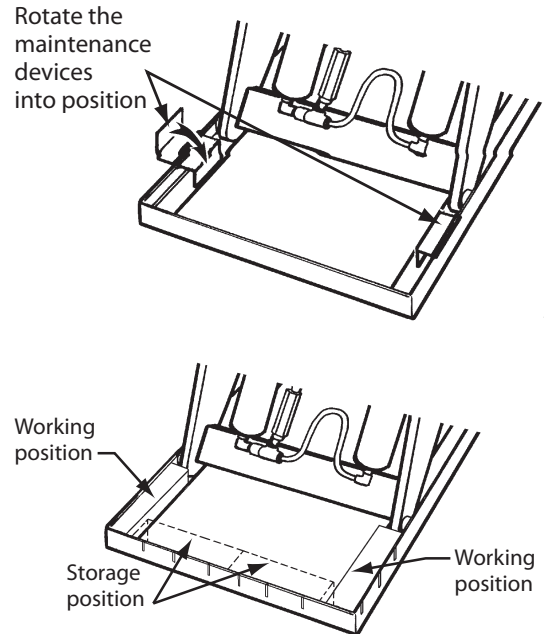

Figure 1: Safe Servicing of Lift
3. Remove the maintenance device(s) from its/their storage location and place it/them into the engaged position as shown in Figure 1. Note: For LST models ensure all supplied maintenance devices are utilized.
12. Raise the lift and insert the maintenance devices, as shown in Figure 1.
When adjusting the flow control, always raise the lift table and insert the maintenance devices, as shown in Figure 1. Do not try to adjust the flow control while pressing the “down” button. If you try this, the lift table may drop suddenly, and you may be hurt.
- **Raise the lift table and insert the maintenance devices**, as shown in Figure 1.
- Every time you want to change the adjustment again, raise the table again and insert the maintenance devices as shown in Figure 1.